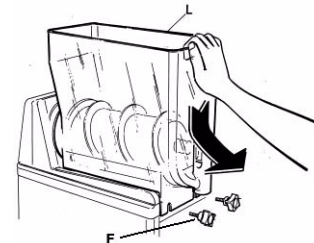

FIGURE 14
4. Unscrew and remove the two knobs (F) then lower the bowl to drain out any remaining product through the dispensing valve (see Figure 14).
6. Remove the bowl (L) by pulling it downwards (see Figure 14).
- Unscrew the two knobs (F) (see Figure 14);
- Then lower the bowl to drain out any remaining product through the dispensing valve (C).
19. Screw the knobs in (F) to fix the bowls.